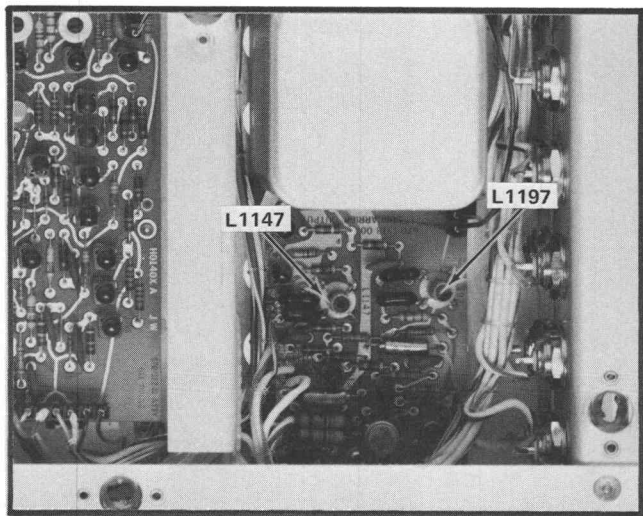

Fig. 6-5. Subcarrier Output board adjustment locations.
e. ADJUST—L1147 and L1197 (see Fig. 6-5) for maximum subcarrier amplitude.